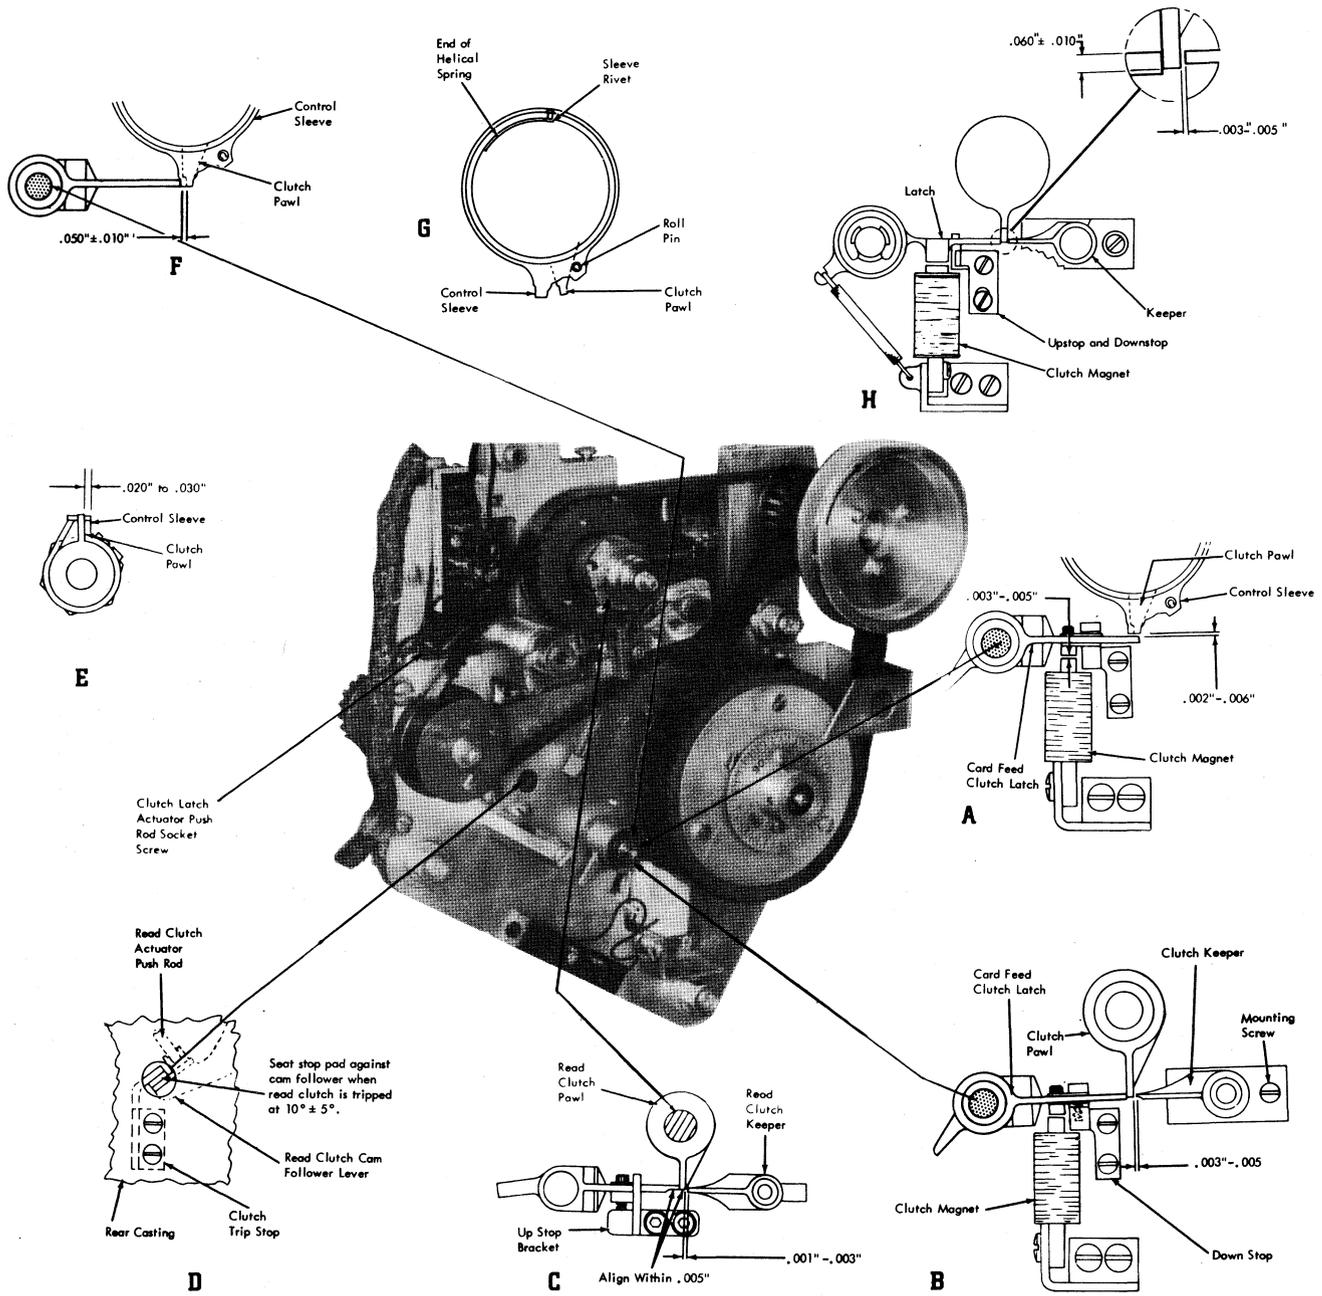

Figure 4-4. Card Feed Clutch and Read Clutch Adjustments
1. With clutch latch arm seated against down stop, adjust down stop, by means of the mounting screws, for a .002" to .006" clearance between clutch latch and clutch control sleeve arm (Figure 4-4, Insert A). When making this adjustment, downward travel of latch armature assembly should strike the downstop; not the magnet cores.
2. With clutch latch seated against down stop, position clutch magnet assembly for .003" to .005" clearance between magnet core and clutch latch arm (Figure 4-4, Insert A).
3. With card feed clutch latched, use mounting screw to position clutch keeper for .003" to .005" clearance between keeper and clutch pawl (Figure 4-4, Insert B).
slowly by hand to unwind the clutch spring (Figure 4-4, Insert F).
1. Position upstop for .060" ± .010" overlap of the clutch latch on the clutch pawl (Figure 4-4, Insert H).
5. Adjust clutch spring clamp for .050" ± .010" clearance between clutch pawl and end of the clutch latch. The CF clutch spring clamp is fastened to the clutch pawl by two screws. When making this adjustment, the arm on the control sleeve should be in contact with the end of the clutch latch, and the clutch keeper should be pivoted out of contact with the clutch pawl. The clutch input pulley (pulley hub if pulley is removed) should also be rotated slowly by hand to unwind the clutch spring (Figure 4-4, Insert F).
2. Slip control sleeve over helical spring and position sleeve so that roll pin follows and is in contact with clutch pawl (Figure 4-4, Insert G).
10. Run machine for about five minutes, then check the .050" clearance between clutch pawl and clutch latch (Figure 4-4, Insert F). Readjust if necessary.
1. With CF and read clutches latched, position read clutch up-stop bracket so end of the shock mounted section of the latch is aligned within .005" to bottom surface of clutch pawl (Figure 4-4, Insert C).
mounting nut, to obtain a .001" to .003" clearance between keeper and clutch pawl (Figure 4-4, Insert C).
3. With CF and read clutches latched, turn read clutch latch actuator push rod socket screw until read clutch latch just starts to move, then back off screw 1/2 turn. Trip CF clutch and turn CF clutch shaft by hand. Observe time on CF index when read clutch engages. It should be $10^\circ \pm 5^\circ$. If it is not, recheck adjustment No. 1. If adjustment No. 1 checks remake clutch push rod socket screw adjustment (Figure 4-4, Insert D).
4. Adjust the read clutch cam follower stop pad to seat against read clutch cam follower lever when read clutch is tripped at $10^\circ \pm 5^\circ$. The lever should clear the stop pad at $60^\circ \pm 5^\circ$ (Figure 4-4, Insert D).
5. Trip feed clutch and crank until clutch pawl is in an upward position (Figure 4-4, Insert E).
6. Adjust clutch spring clamp so distance between edge of control sleeve and clutch pawl is .020" to .030" (Figure 4-4, Insert E).